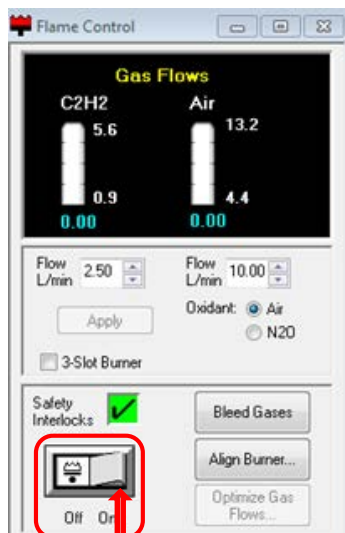

Fig. 22
3.3.2 Ignite the flame (fig.22).